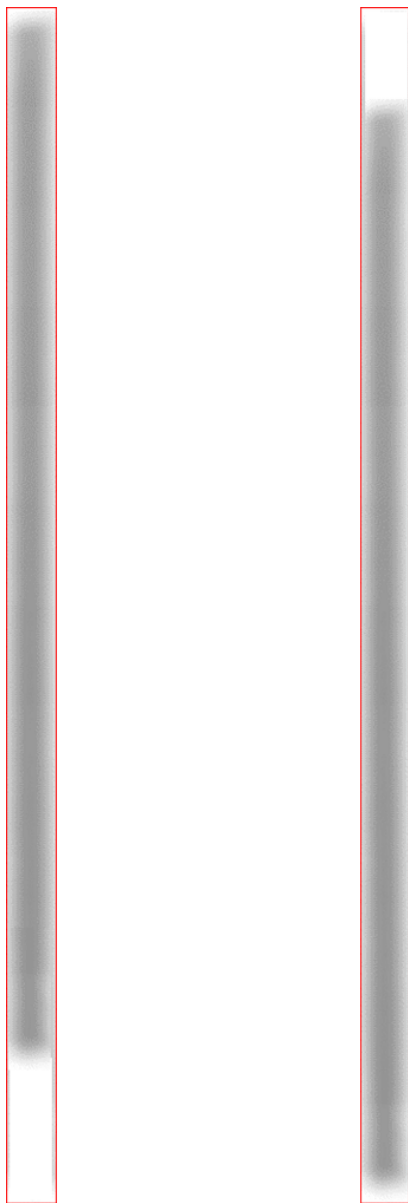

Figure 44
15. In case the sensor is not completely exposed in the upper or lower part (Figure 44)